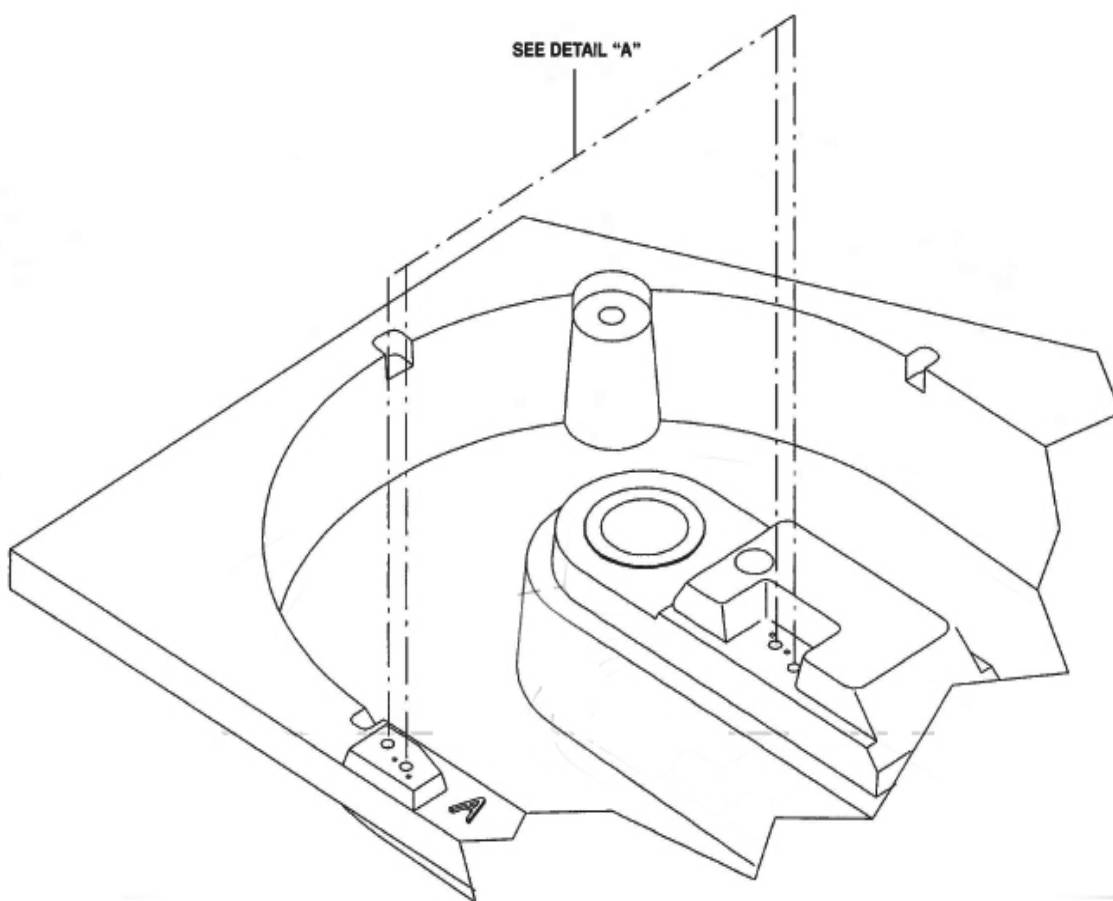

Figure 1.
NOTE: The MACHINE SCREW (item 2) and HEX NUT (item 3) when assembled are used as a tool to install the four THREADED INSERTS (item 1) in four locations on the ABS drip tray (see Figure 1).
1. Install the Hex Nut (item 3) onto the Machine Screw (item 2), as shown in illustration. Make sure there is a 1/8-inch space between the hex nut and the end of the machine screw.
2. Install THREADED INSERT (item 1) on MACHINE SCREW (item 2) until threaded insert makes contact with the hex nut as shown in Figure 1.
NOTE: There are four holes on the ABS drip tray (see Figure 1) that need to be drilled out to accommodate the four Threaded Inserts (item 1).
4. Using DRILL BIT (item 5), drill out the four indicated holes on the ABS drip tray.